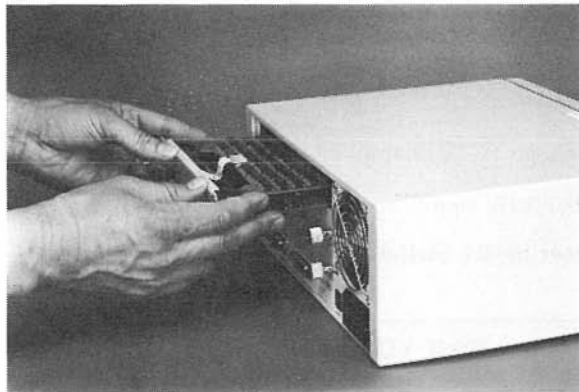

Figure 5-4. Installing the interface.
- d. Keeping the graphics card slightly ahead of the video card, slide the cards into adjacent accessory slots as shown in Figure 5-4.